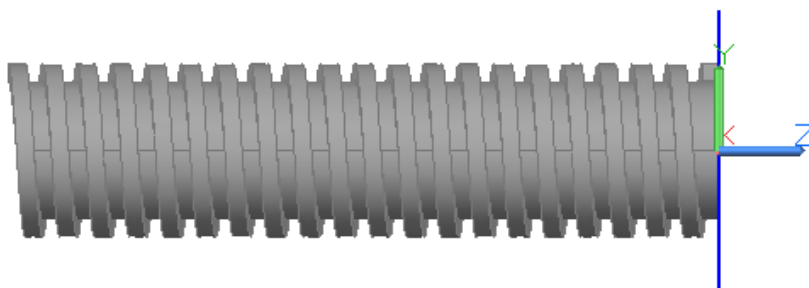

Figure Step 15
Step 15 Change the current view to Front. (Figure Step 15)